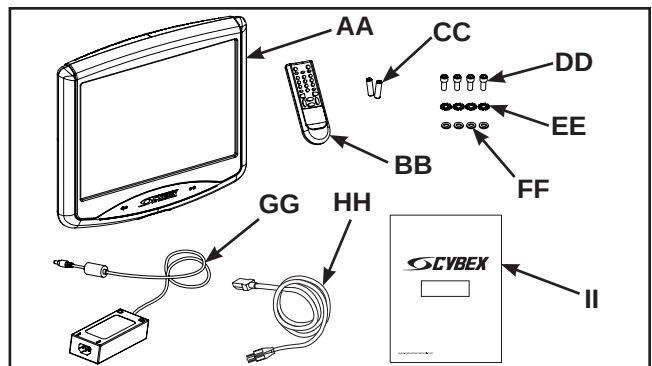

Figure 2
3. Verify the monitor kit contents shown in Figure 2.
- AA. Monitor (1), EE000005 or EE000007
- BB. Remote control (1), EM000000
- CC. Batteries, remote control, AAA size (2), N/A
- DD. Screws, mounting, M4 x 0.7 x 10 mm (4), HC692860
- EE. Washers, external lock, (4), HS047300
- FF. Washers, flat, M4 (4), HS097600
- GG. AC/DC adapter (1), ET300038
- HH. Power cord, 115 VAC 60 Hz, (Country specific cords supplied with product), (1), EW600000
- II. Personal Entertainment Monitor Manual (1), LT-20191